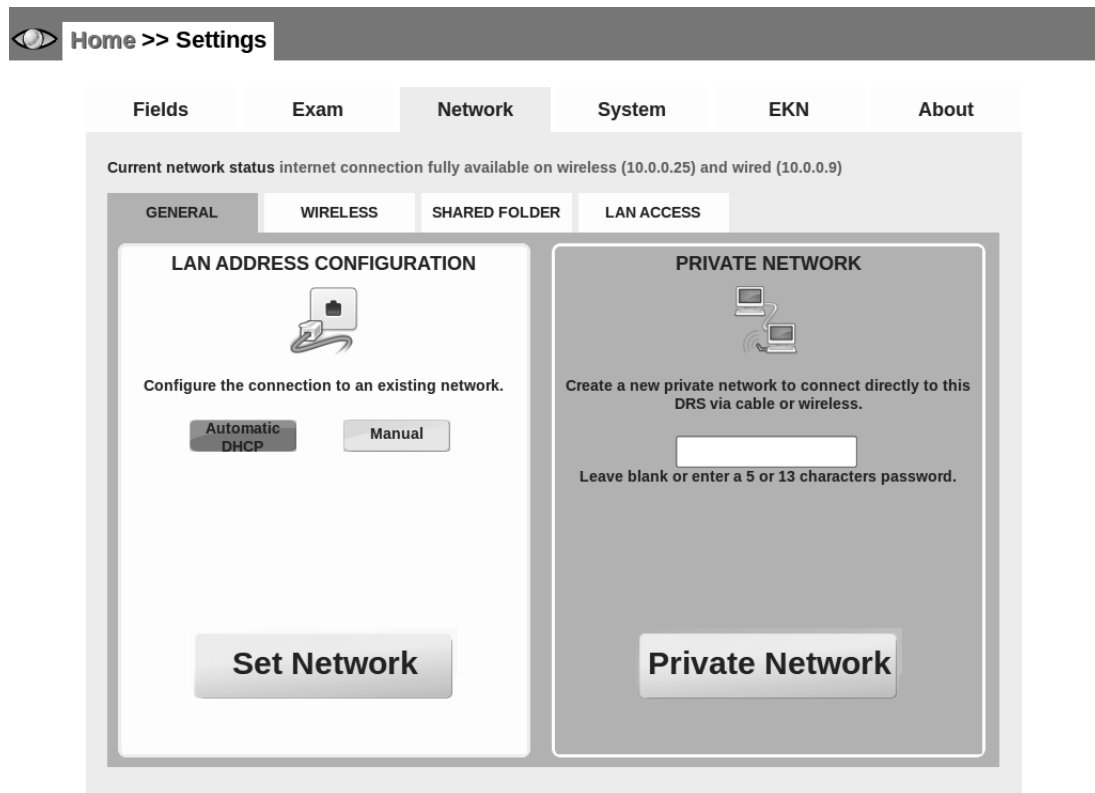

Figure 33 - Network/General tab in settings page
4. Retrieve the DRS IP, as displayed in the Settings – Network screen (see par. 14.3, Figure 33);
Each time the “Network” tab is selected, a network test is performed. Once it completes, the result is displayed on the screen next to the Current network status label. The result can be any of the following (see Figure 33):